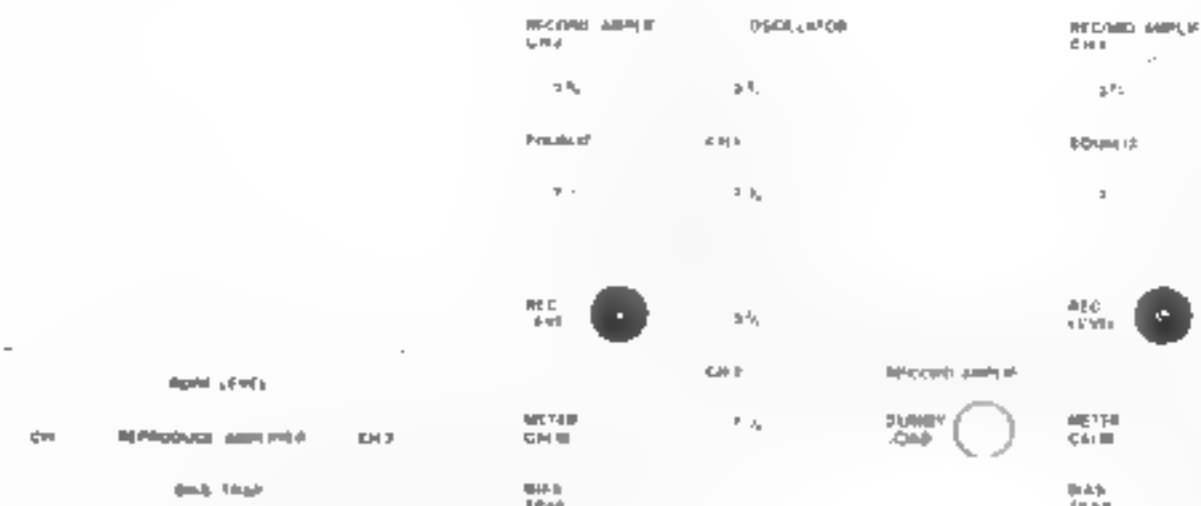

Fig. 6.5-72
- Switch to NAB and adjust REC LEVEL trimpots (fig. 6.5-72) to obtain 200 mV at OUTPUT terminal, playback mode switch to CH 1 or CH 2 respectively.